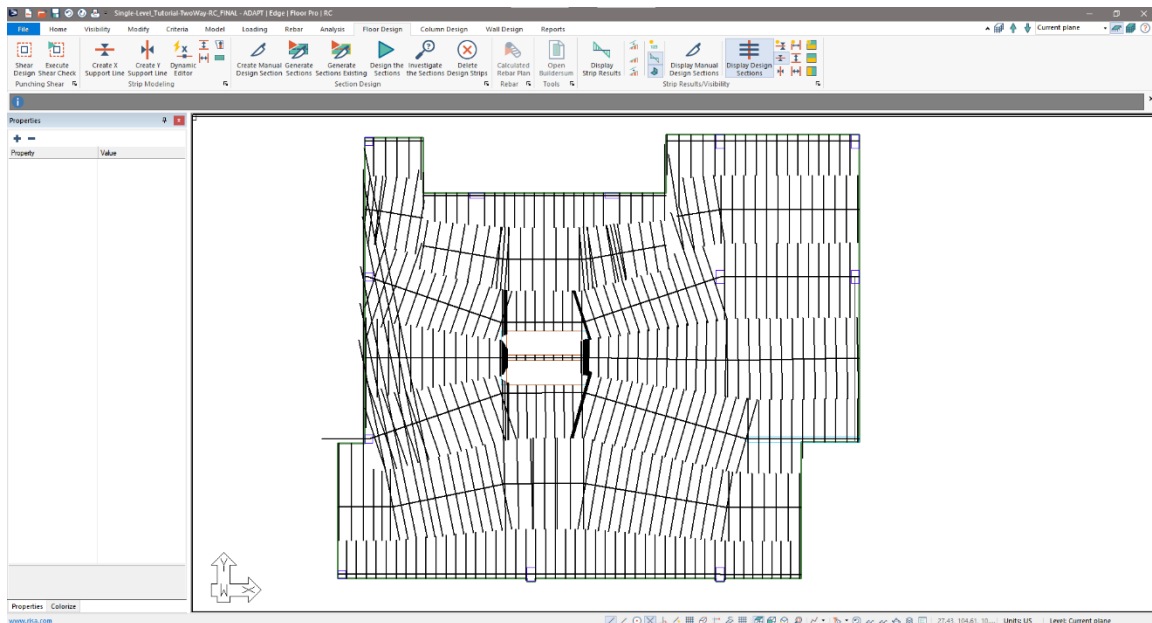

Figure 6-24
- Go to *Floor Design* → *Section Design* and click on the *Generate Sections* icon. When the process is completed the user should see design sections cut as shown in **FIGURE 6-24**.